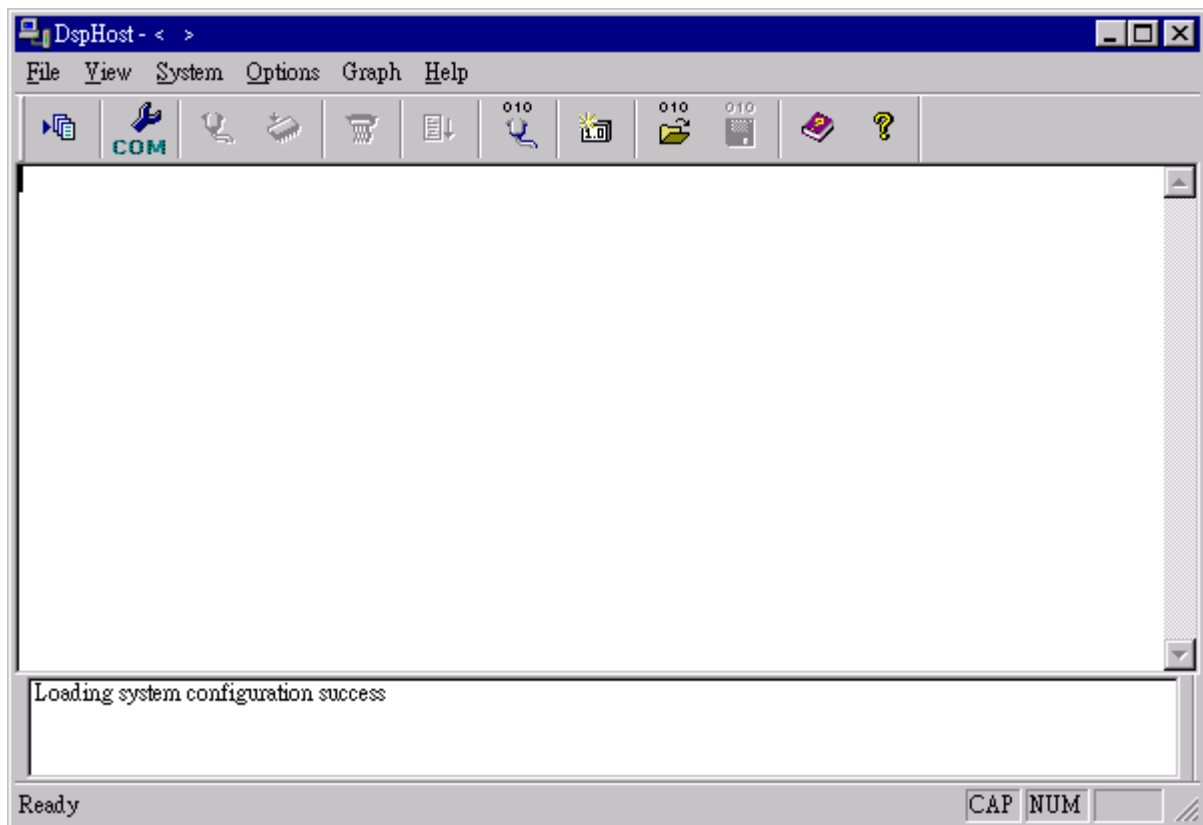

Figure 6.1 “DspHost” window
- 1) Run “DspHost.exe” and a window as shown in Fig. 6.1 will be brought up.